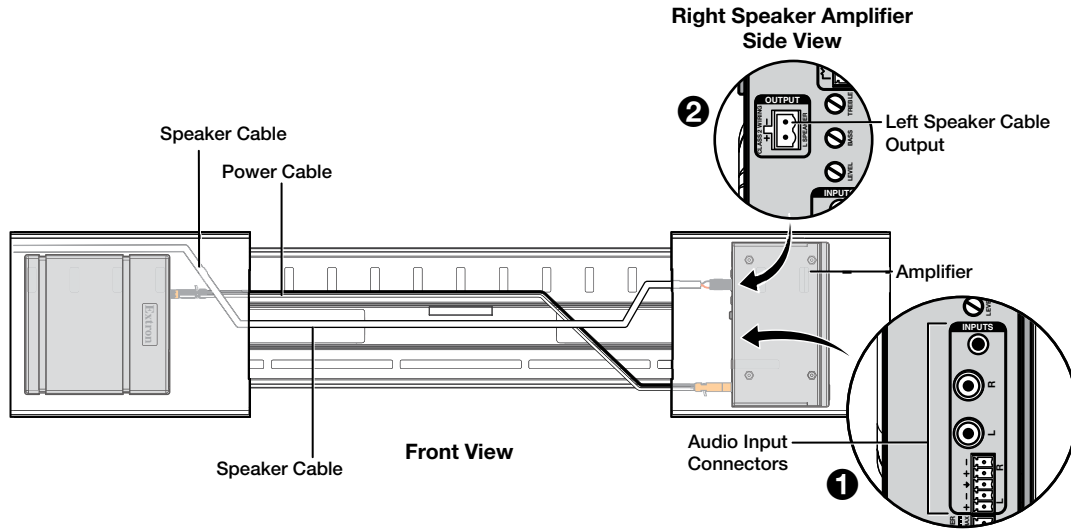

Figure 14. Left Speaker Cable Routing
5. Route the supplied speaker cable from the left speaker module to the left speaker output of the amplifier (see figure 14, ②).
See figure 14 on page 11.